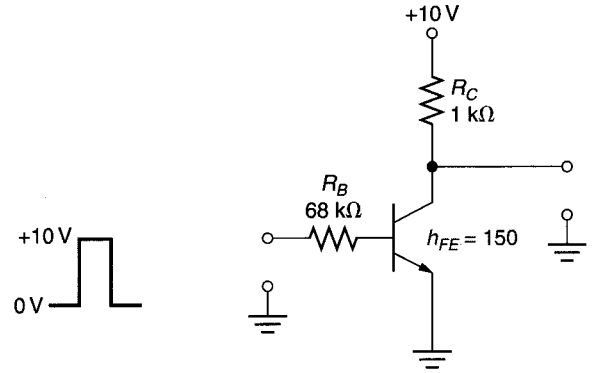

FIGURE 19.48
4. Determine the minimum high input voltage required to saturate the transistor in Figure 19.48.